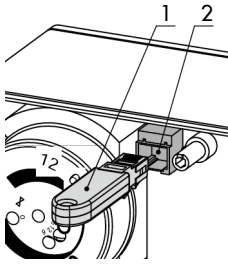

Fig. 28: Connecting actuator and memory pen
The memory pen is connected to the actuator as shown in Fig. 28. The TROVIS-VIEW Operating Instructions ► EB 6661 describe how to transfer data.
1. Plug the memory pen into the serial interface of the actuator (see Fig. 28). The yellow LED on the actuator indicates that the data logging is being prepared (see Chapter 8.4). A change in the blinking pattern of the yellow LED indicates that data are being saved to the memory pen.